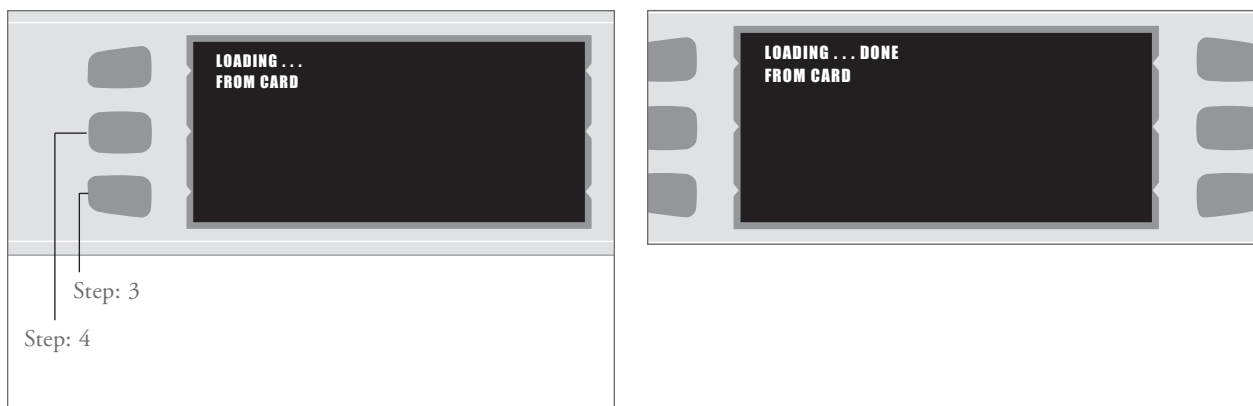

FIGURE 20: Loading from Smart Card
4. Press middle left Soft Key to LOAD MENU FROM CARD (Figure 20).
5. Press the “ENTER” Key to confirm or the “BACK/STOP” Key to cancel. After approximately 5 seconds, screen will display that menu has loaded from card (Figure 20).
5. Press middle left Soft Key to SAVE MENU TO CARD (Figure 20).